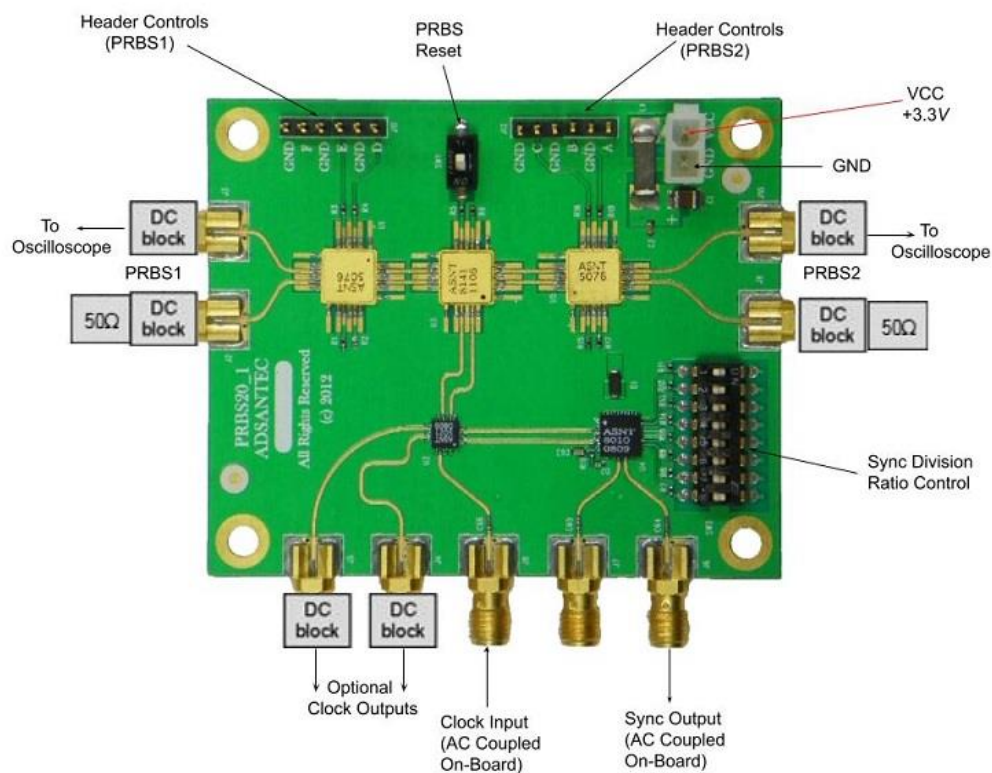

Fig. 6. Recommended Board Configuration Diagram
12. **Fig. 6** on the following page provides an example of how this board can be connected.